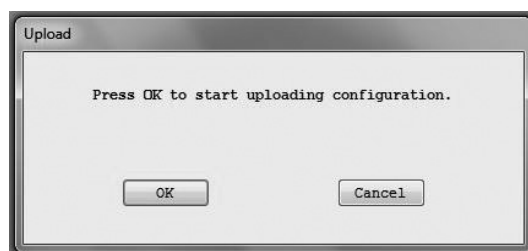

Fig. 3-93
- (1) Click "File (F)" from the menu, and then click on "Print (P) Ctrl+P".
- (2) The following window (Fig. 3-93) will be displayed. To reflect the latest data, execute uploading here. If it is cancelled, the printing screen will not be displayed.